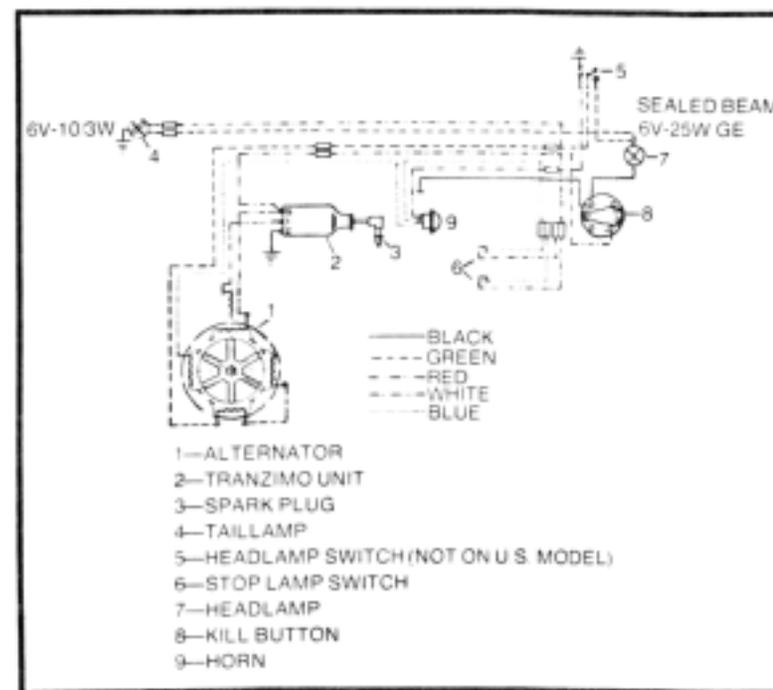

Fig. 5-33. The Tranzimo in schematic.
Figure 5-33 is a schematic of the circuit. The Tranzimo unit (2) houses the transistor and the secondary ignition coil. The transistor is connected to the primary ignition coil, the trigger coil, and the kill switch (8) on the handlebar. Internal connections are not shown, but a resistor is in series with the signal lead, and the output side of the transistor connects to the secondary coil. The rotor is keyed to the crankshaft and has permanent magnets in its rim. As the crank turns, one magnet